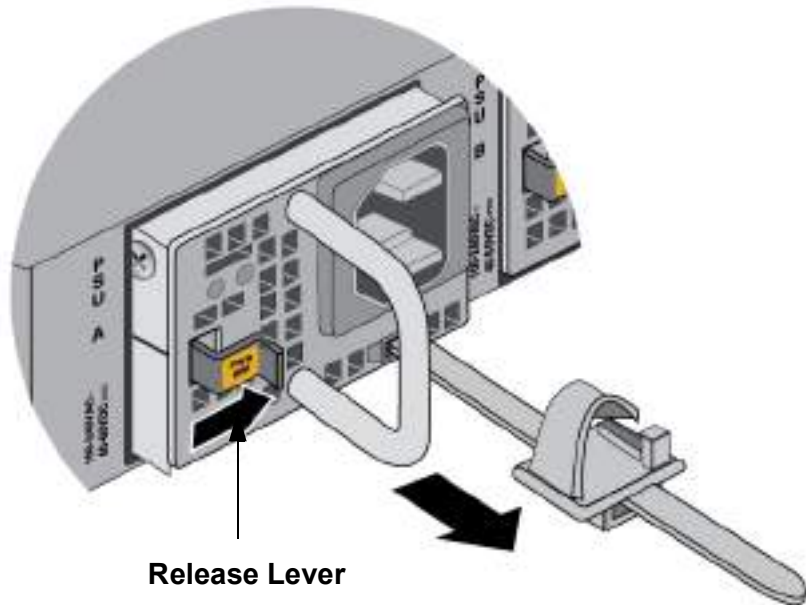

Figure 131. Removing the Power Supply
7. Press the release lever to the right and pull on the handle to release the power supply from the internal connector in the switch. Refer to Figure 131 on page 189.